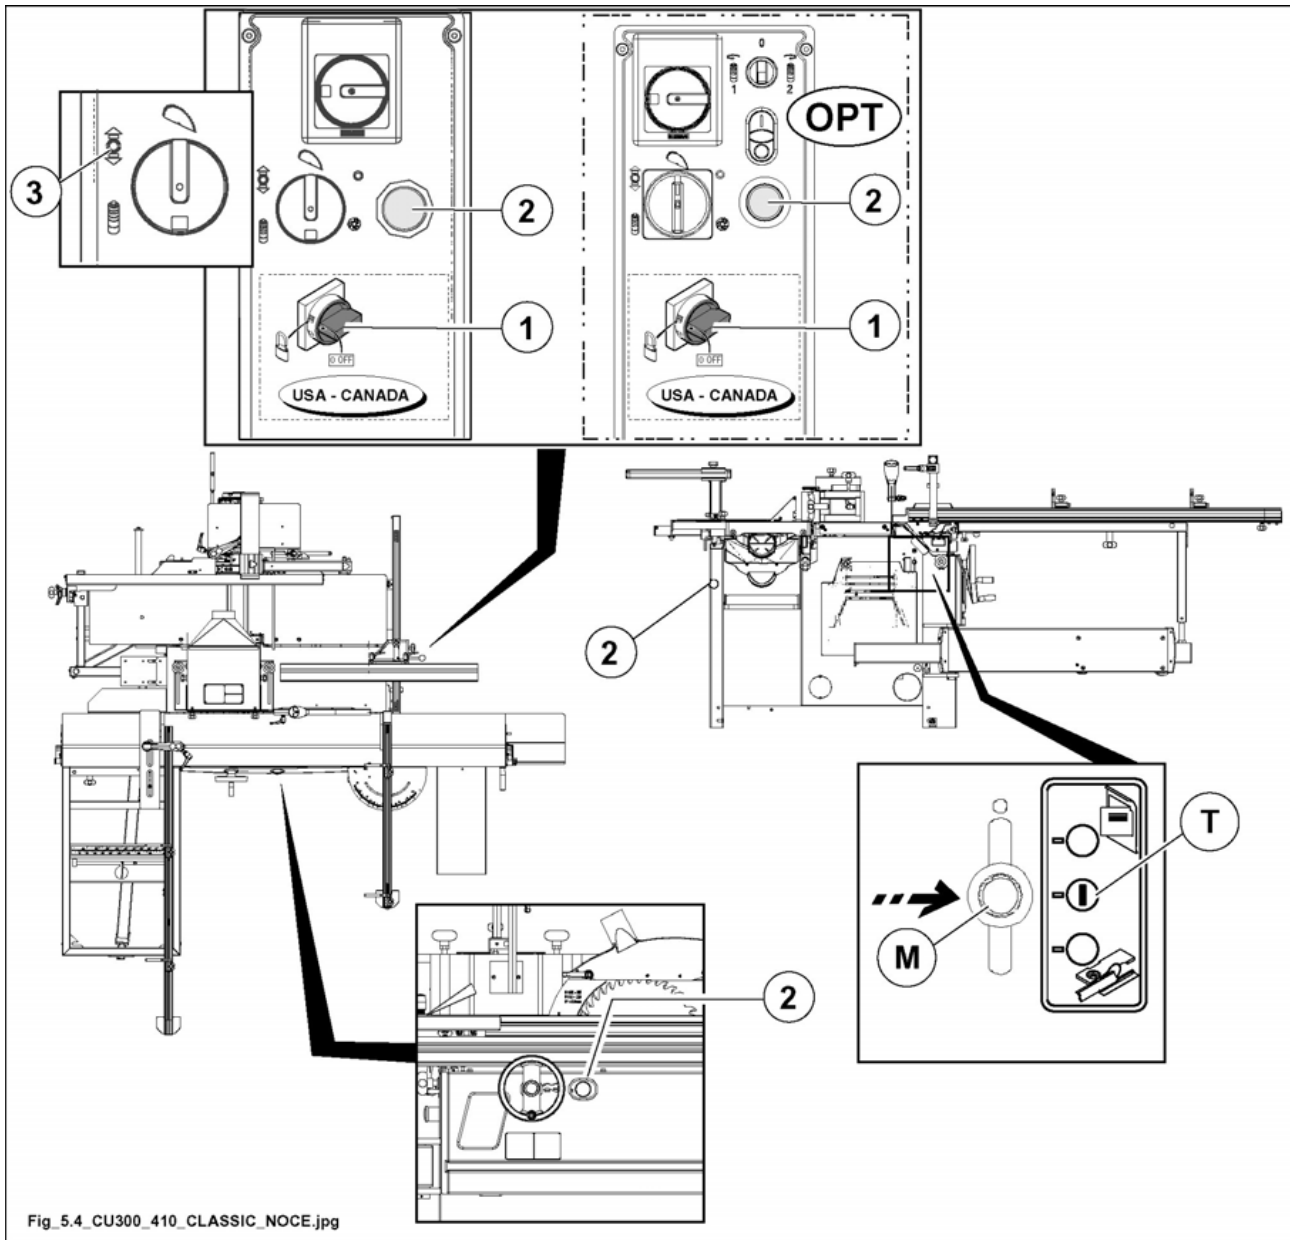

Fig. 5.4
- The lever (M fig. 5.4) is positioned next to the green disc on the plate (T fig. 5.4).
- The emergency buttons (2 fig. 5.4) are in the right position (if necessary release them).
- (U.S.A. and CANADA) Main switch (1 fig. 5.4) is turned to I (ON).